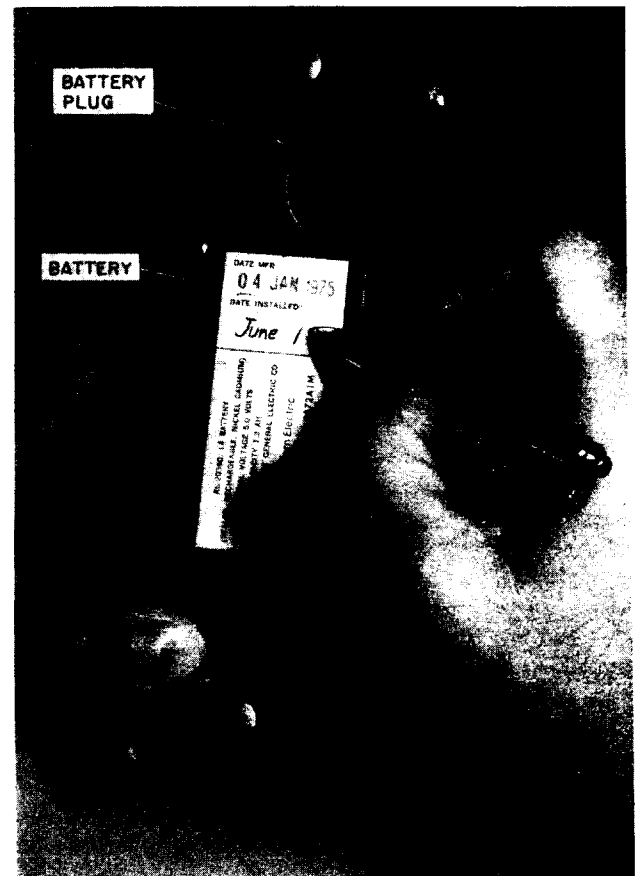

Fig. 6—870B1M or 2870B1M Dial, Partial Bottom View
- (1) Tilt the front of the adjunct dial up.
- (2) Unplug the battery.
- (3) Loosen captive screw on the battery support.
- (4) Remove battery support.
- (5) Remove battery.
- (6) Install and check new battery (paragraph 3.06 or 3.07). Write date of installation on battery (Fig. 6).